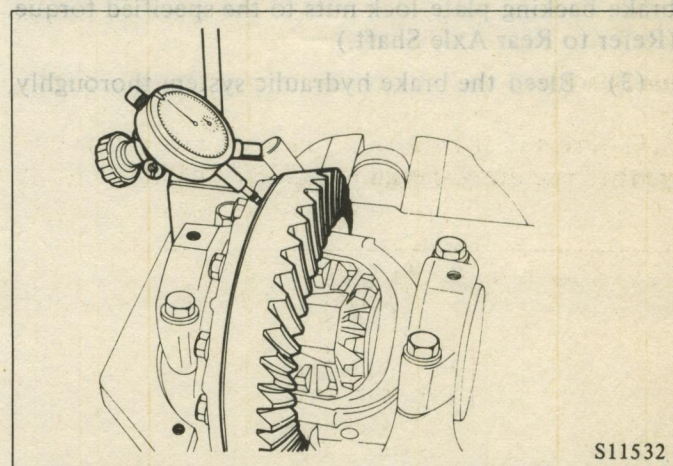

Fig. 39 Measuring Drive Gear Back Surface Runout
(1) Apply a dial indicator to the back of the ring gear and measure the amount of runout. (Fig. 39)
(2) If the runout exceeds the standard dimension, change the mounting position of ring gear to differential case and measure the runout again. If the runout is still excessive, replace ring gear or the differential case as necessary.